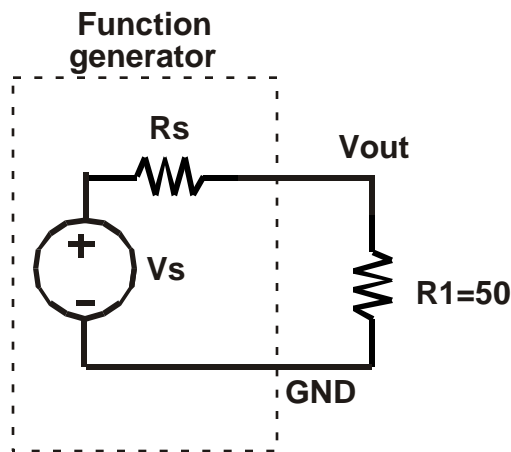

Figure 1. Internal resistance of a function generator.
Figure 1 shows a simple circuit of a function generator driving a resistive load. This circuit is used to illustrate and measure the internal resistance of a function generator.
The function generator is a voltage source V_s with a finite non-zero source resistance R_s . The generator assumes a loading of 50 Ω connected to its output (see Figure 1). The display of signal
1. Derive an equation for V_{out} in Figure 1 in terms of V_s , R_s , and R_1 .
2. For the circuit in Figure 1, given that $V_s = 1$ V, compute V_{out} for these two cases: (a) $R_1 = R_s$, and (b) $R_1 \gg R_s$.
1. Build the circuit in Figure 1 using a 50 Ω resistor as load. Set the function generator to provide a square wave with amplitude 400 mV and frequency 1 KHz.